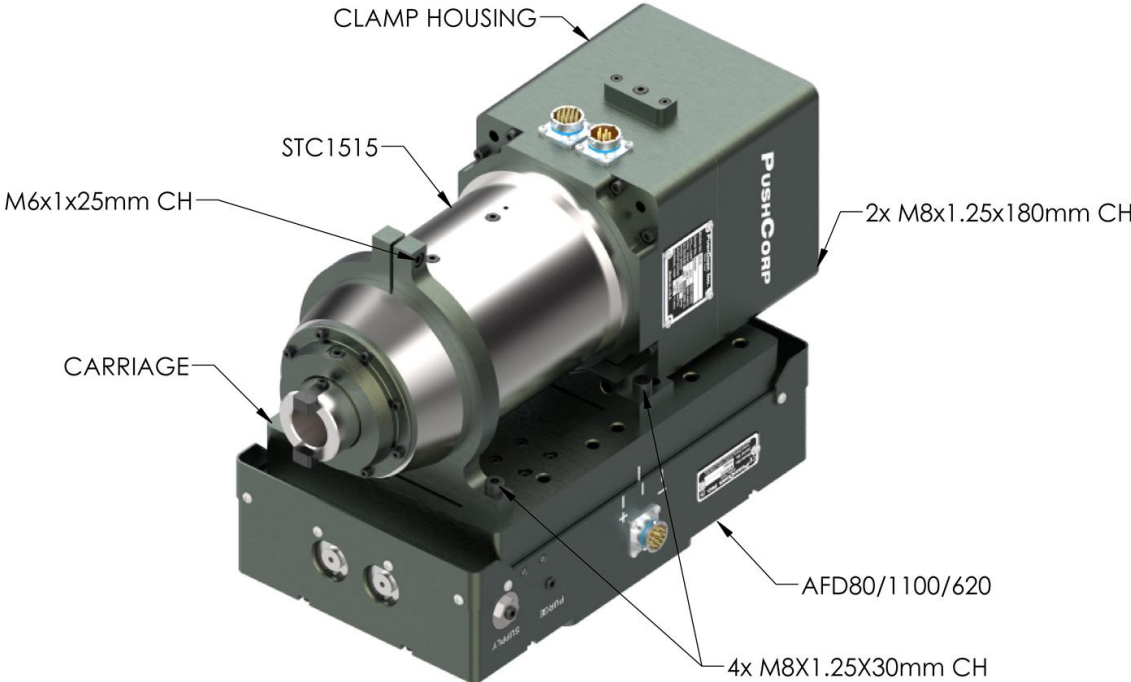

FIGURE 1: STC1515 PARALLEL-AXIS CONFIGURATION
For the Parallel-Axis configuration, shown in Figure 1, the 1515 attaches to the AFD Carriage with two brackets and four (4), M8x1.25x25mm, Socket Head Cap Screws. The 1515 is positioned on the Carriage with the Foot Bracket while the Front Bracket is attached to the forward mounting holes. The Clamping Screw on the Front Bracket should be loose to allow sliding movement along the motor. Attach the Foot Bracket to the Clamping Housing (Mounting Plate for the SM0612) using two (2), M8x1.25 Socket Head Cap Screws. When the desired position is achieved secure the brackets to the Carriage, and tighten the Clamping Screw. The M8x1.25, Socket Head Cap Screws, must be the proper length and tightened to the torque specified in Section 4.0.